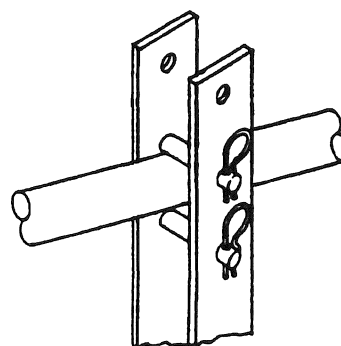

fig. 4
1. You can secure the handle in the front or rear position as well as adjust for height with the clevis pins (item 33, pg. 16) and hair cotters (item 34, pg. 16) provided as shown in figure 4.
3. Select the desired handle location for the job. Remove the hair cotter and the clevis pin (item 33, pg. 16). Swing the handle (item B, pg. 5) over to convert the stump cutter to a front or rear cutter (Figure 5, page 5). If the stump is close to a building or fence, have the cutter head in front. If the stump is in the open, you may find it is easier to chip with the cutter head in the rear. You can also change the height of the handles by positioning the clevis pin in one of several locations. Always secure the clevis pin by inserting the hair cotter (Figure 4 pg. 6).